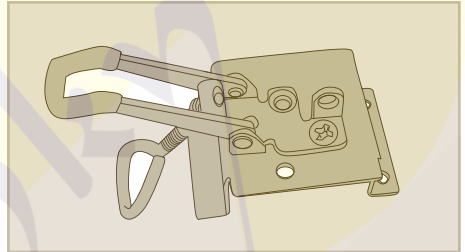

Figure 1
- 2 x Clamping Latch mounted on bracket, See Figure 1.